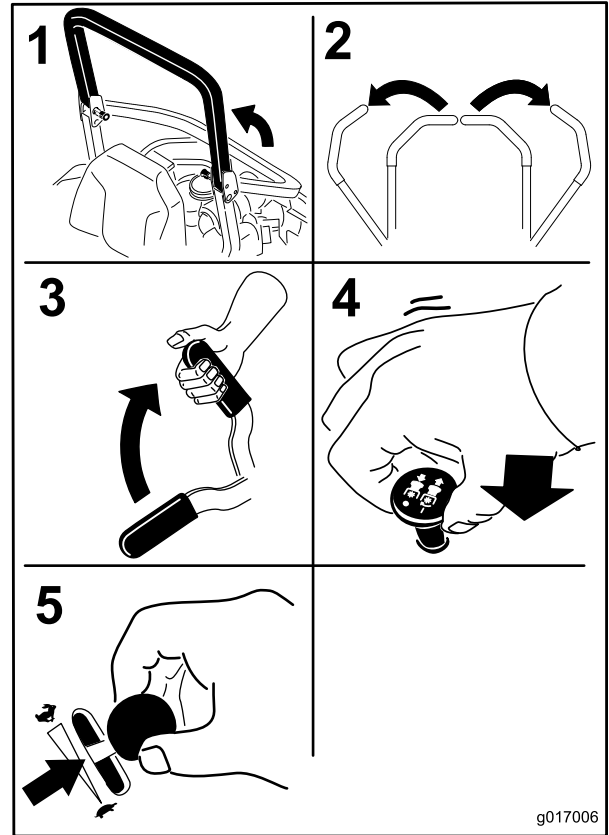

Figure 18
1. Raise the ROPS up and lock them into place. Sit on the seat and fasten the seat belt (Step 1 in Figure 18).
2. Move the motion controls to the neutral locked position (Step 2 in Figure 18).
3. Set the parking brake; refer to Setting the Parking Brake (page 18) (Step 3 in Figure 18).
4. Move the blade control switch (PTO) to the Off position (Step 4 in Figure 18).
5. Move the throttle lever midway between the Slow and Fast positions (Step 5 in Figure 18).